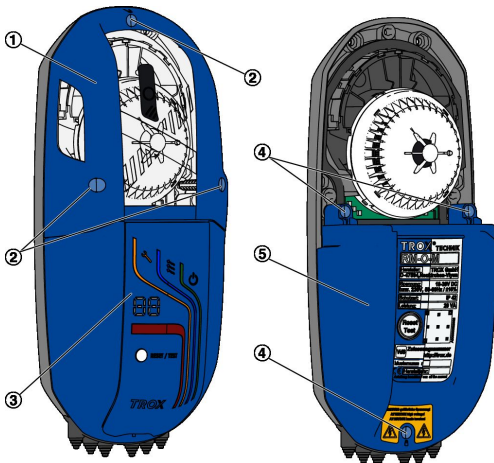

Fig. 15: Opening the electrical operating area
1. ▶ Remove the display module, if provided (Fig. 15/3).
2. ▶ Loosen the bayonet screws (Fig. 15/2) and remove the inspection cover (Fig. 15/1).
3. ▶ Loosen the bayonet screws (Fig. 15/4) and remove the unit cover (Fig. 15/5).